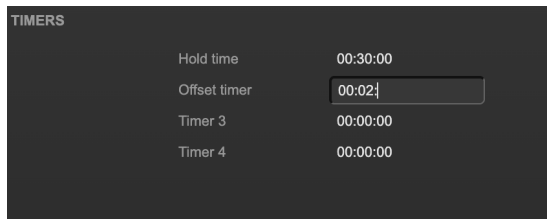

Figure 7.1: Editing timers
- Doubleclick on a count down timer's name or time to change it. In figure 7.1 you see timers labeled as *Hold time* and *Offset timer*, with their values assigned manually.